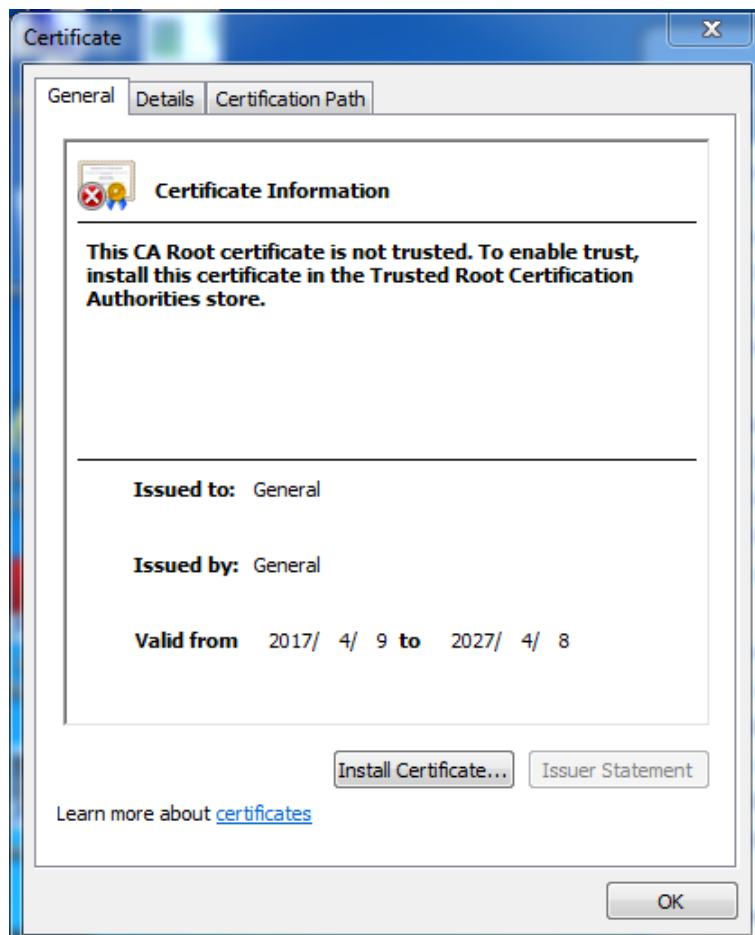

Figure 6-63
Step 1. Double click  RootCert.cer , see Figure 6-63.